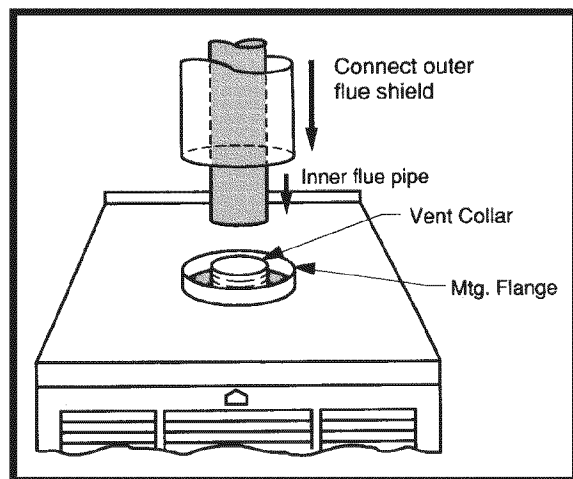

Figure 22. Combustion Air Pipe Connection
3. Connect flue pipe to flue collar of furnace. See Figure 22.
4. Connect combustion air pipe to furnace collar with sheet metal screw (See Figure 22).